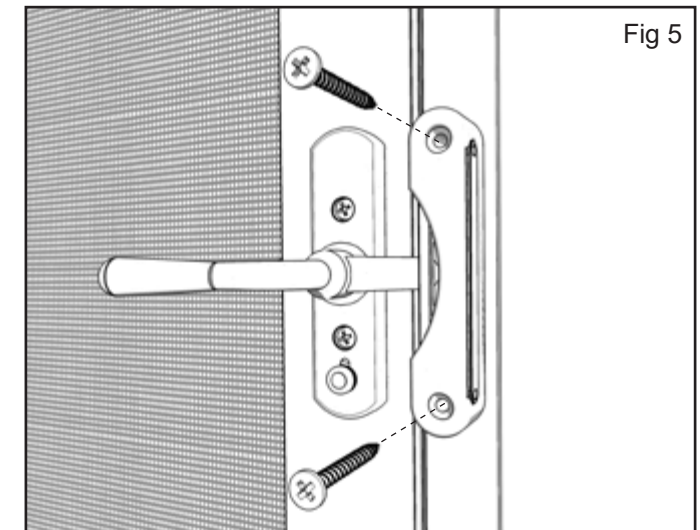

Fig 5
- F. Install strike using two Phillips screws in pilot holes. (**Fig 5**)